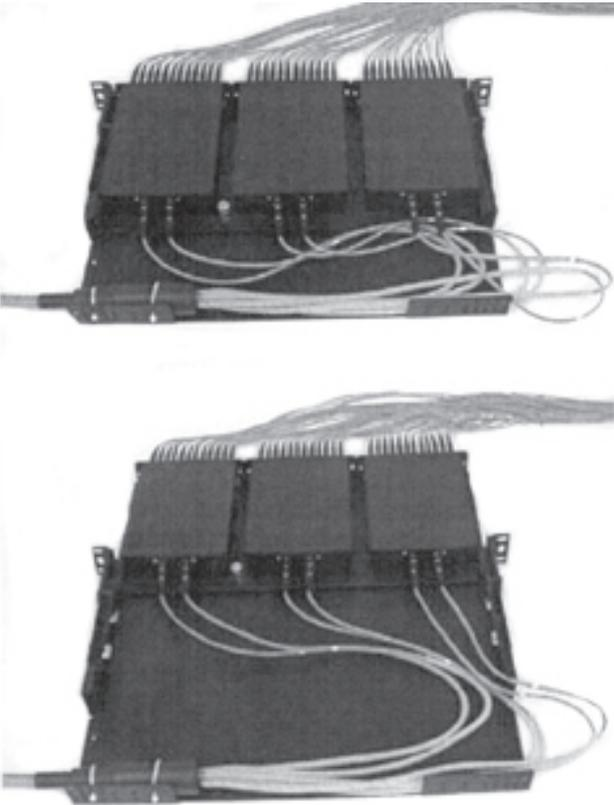

Figure 9
7.1 Route the cable inside the HDH unit (Figure 9), making sure that there is enough slack for the slide-out connector panel tray to operate properly without violating the minimum fiber bend radius.